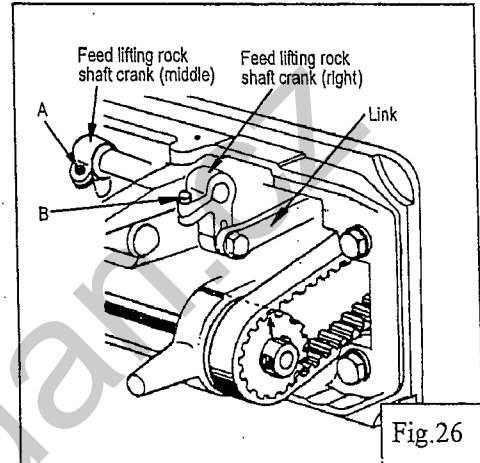

Fig.26
- B Lean the machine head backward. (Fig.26)